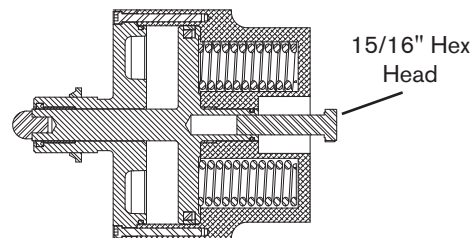

Figure 6c 60 PSI Actuator
- 2c. Using a 15/16 inch socket, turn the manual release bolt counterclockwise until snug to fully cage (compress) the spring. (Refer to Figure 6c)